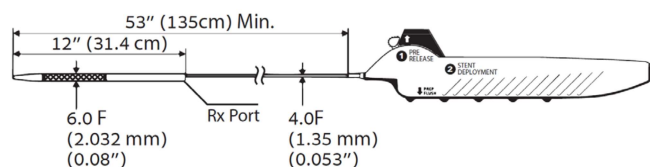

Figure 2. Rx Delivery system of 135 cm working length
The Rapid Exchange (RX) CGuard® Prime delivery system is designed with two deployment steps mechanism: pre-release mechanism (step 1), and stent deployment (step 2), to improve the system operation and allow easy and accurate deployment. This delivery system is suitable for all sizes of CGuard® Prime stents. It is comprised of an outer shaft and an inner assembly. A pictorial representation of the delivery system is presented in Figure 2.